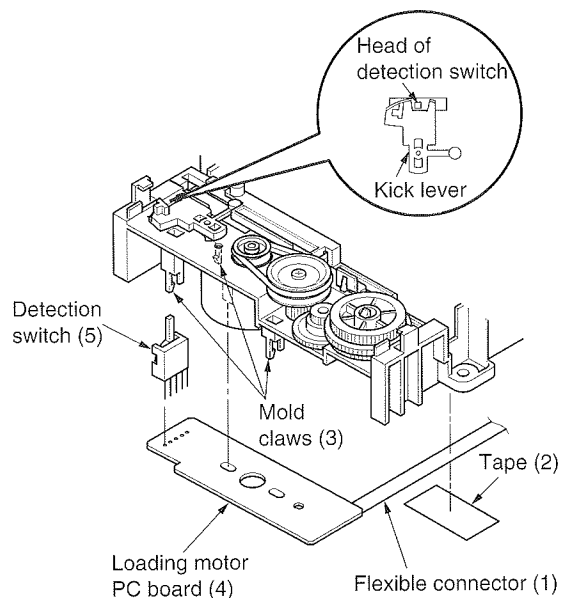

Fig. 2-13
1. Peel off the tape (2) which fixing the flexible connector (1).
3. Loosen three mold claws (3), and remove the loading PC board (4) (Refer to Fig. 2-13).
4. Desolder, and remove the detection switch (5).
5. Remove the loading belt (6) (Refer to Fig. 2-13).
6. Remove two screws (7), and remove the loading motor (8).
1. Align the positioning hole of a new loading motor (8) to the hole into which the chassis positioning boss is inserted, and fix the motor with two screws (7). (Refer to Fig. 2-13.)
- When mounting the loading motor PC board, insert the end of the detection switch (5) into the notch of the kick lever. (Refer to Fig. 2-13.)
- When mounting the loading belt (6), take care not to twist the belt or touch grease.
- Be sure to open the molded claws (3) manually when mounting the loading motor PC board (4).